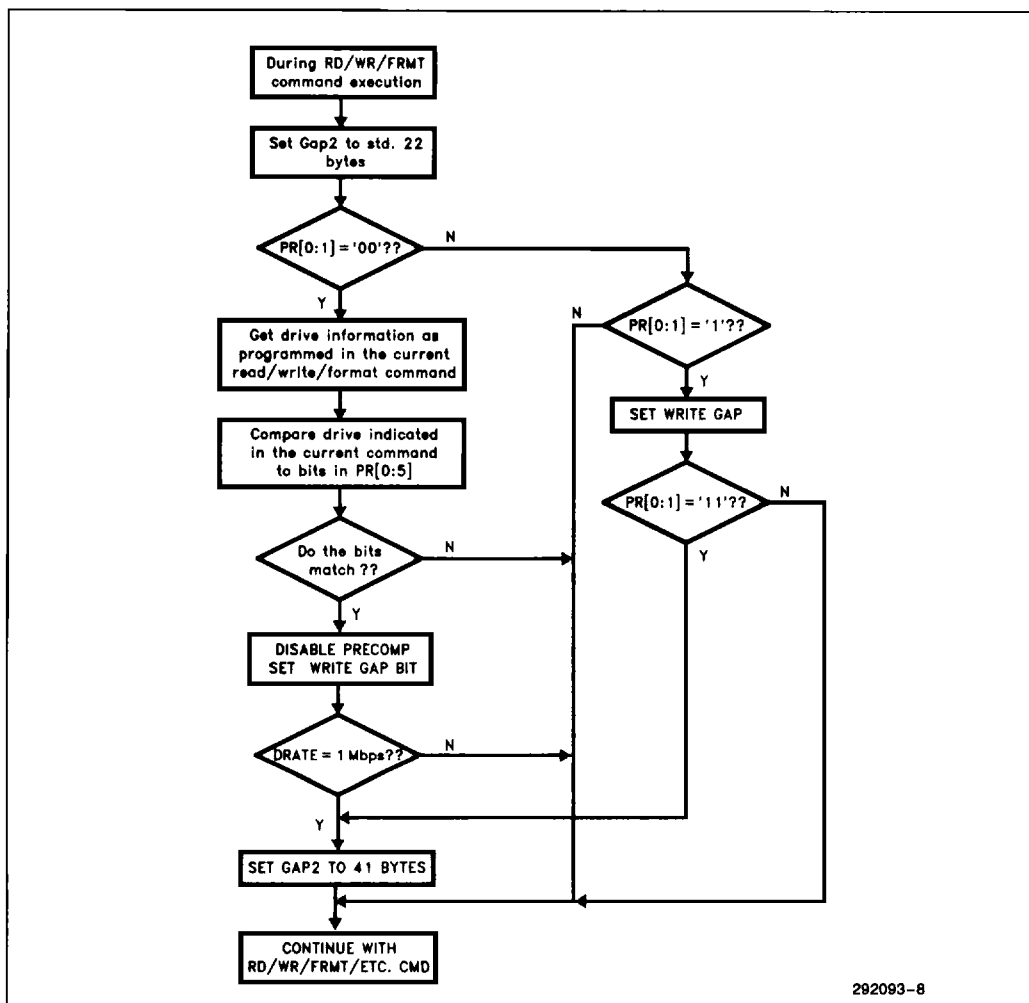

Figure 5b. During Data Transfer Commands
As shown in Figure 5b, the Gap2 length is initially set to the conventional length of 22 bytes. Next the PR[0:1] bits (GAP, WGATE) are checked if they are set to '00'. If the PR[0:1] bits are set to '10' then, perpendicular mode is disabled and conventional mode is retained. If the PR[0:1] = '01' or '11' the VCOEN is
1. If any of the Dn bits in PR[2:5] programmed high, then precompensation is automatically disabled (0 ns is selected for the specified drive regardless of the data rate) and VCOEN is set to activate appropriately. All the bits that are set low will enable the 82077 to be configured for conventional mode, i.e., exit the program without modifications (shown Figure 5b).